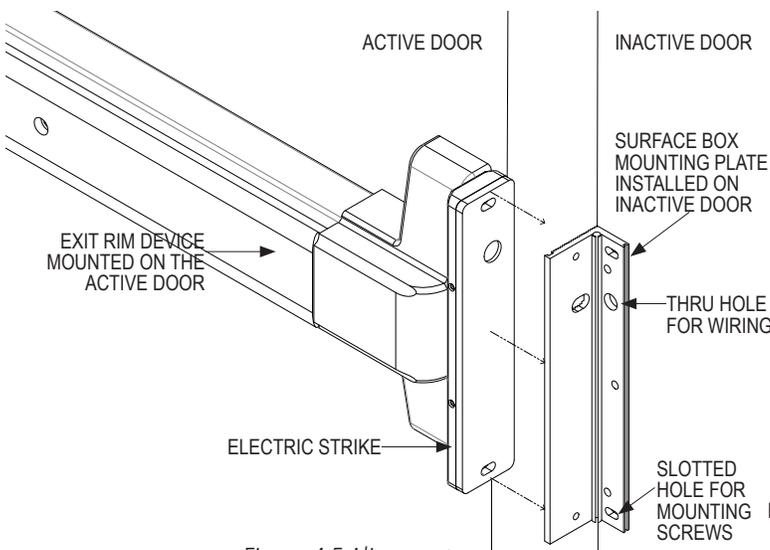

Figure 4.5 Alignment
- Remove the Template and temporarily attach the Electric Strike to the CX-RIM-SB Mounting Plate while aligning the mounting screw holes on the inactive door. (Figure 4.5 & 4.6)